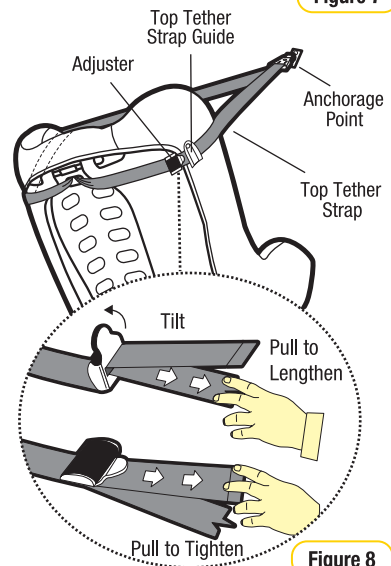

Figure 8
- Step 7:** Pull to tighten to remove all the slack from the upper anchorage strap. Do not overtighten as this could cause the restraint to lift off the vehicle seat (refer Figure 8).